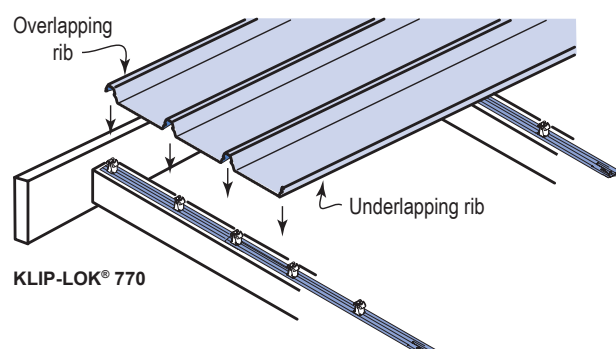

Figure 5
9. Engage the sheet with clips using vertical foot pressure on all the ribs over each clip (*Refer figure 5*).
long spans (*Refer figure 5*).